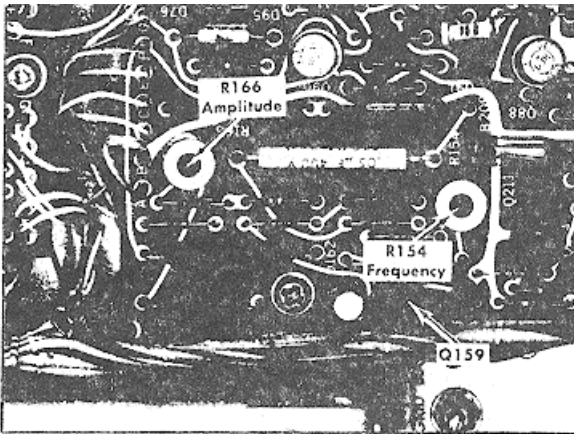
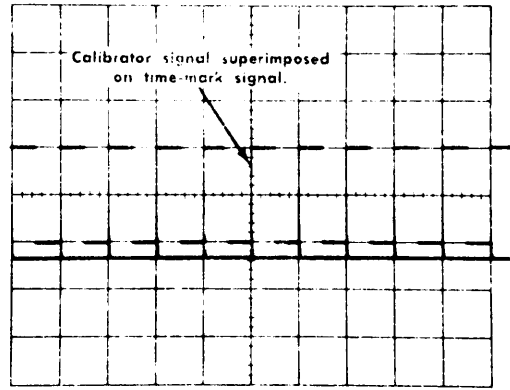

Fig. 5-16. Location of Calibrator controls.
Fig. 5-17. Typical CRT display showing correct calibrator repetition rate.
- c. ADJUST--R166, Amplitude (Fig. 5-16) for meter reading of exactly +40 volts.
- d. Remove Q159 (Fig. 5-16) and check the remaining calibrator voltages as listed in Table 5-2. Connect a 50 ohm termination to the CAL OUT connector when checking the 0.2 V, 20 mV and 2 mV positions of the CALIBRATOR switch.
CHECK--One cycle of calibrator waveform for each marker (see Fig 5-17). The error in 10 major divisions must be ≤ 0.5 minor divisions (the positive transition of the square wave at the right hand edge of the graticule must be no more than 0.5 minor divisions (1 mm) from the positive transitions of the corresponding time marker. **Disconnect the time -mark generator and proceed to step 20.**
- g. ADJUST--R154, Frequency (Fig. 5-16), for one cycle of calibrator waveform for each marker. See Fig. 5-17 (Since the sweep was calibrated in step 4, the display should also be one cycle of calibrator waveform for each major division.)